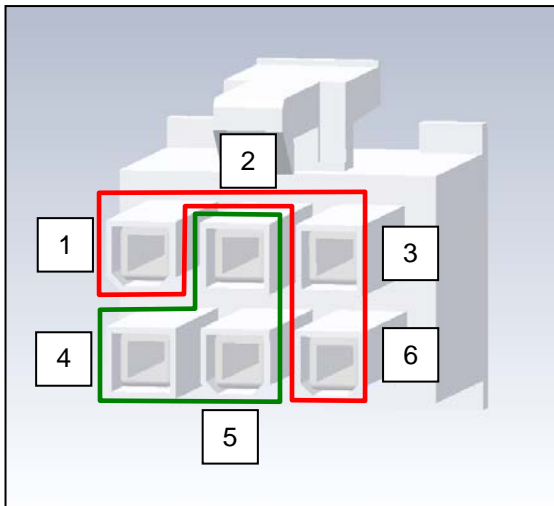

Figure 3-281. Motor Plug
- b. Using a DVOM, check the continuity on the motor end of the plug. First, check between pins 1 and 3, 1 and 6, and 3 and 6. Then check for continuity between 2 and 4, 2 and 5, and 4 and 5 (see **figure 3-281** for pin locations). If all six checks pass, the motor is not faulty, and there is a problem with the motor cable. Check the cable and connections to make sure the wires are not broken or pinched, and check pins to ensure they are still connected.